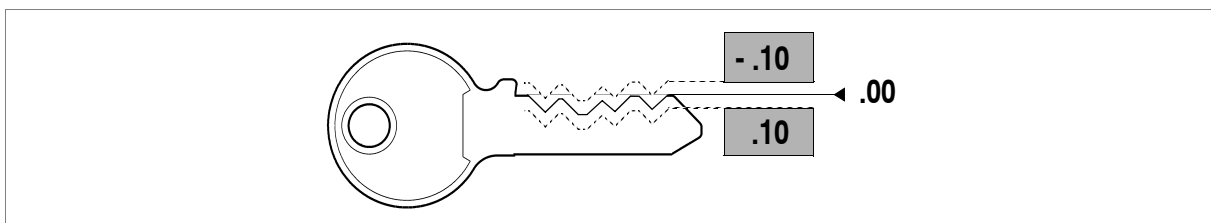

Fig. 12
- 0 key:** press for about 1 second to zero the tracer point position. E.g. if the machine has already been gauged, but the cutting depth requires alteration (increasing or decreasing values), loosen the screw (J) and adjust the ring nut (O). The display will show the value (positive or negative), expressed in hundredths of a millimetre (or thousandths of an inch) (fig.12); a mm scale goes to +/- .99 then passes to 1.00, when the value on the display will flash. The value can no longer be altered because such a big adjustment is not allowed.